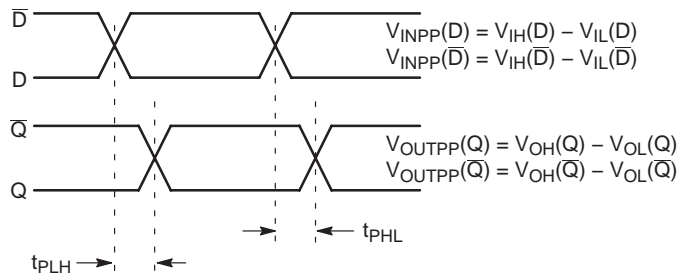

Figure 9. AC Reference Measurement
19. See Figure 9 $t_{skew} = |t_{PLH} - t_{PHL}|$ for a nominal 50% differential clock input waveform. Skew is measured between outputs under identical transitions and conditions @ 1 GHz.